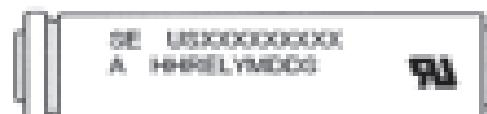

Fig.1
6.2 Trade Mark (Fig.1 : USXXXXXX) 登録商標名 (Fig.1 : USXXXXXX)
6.3 Plant (Fig.1 : A for plant code) 製造所 (Fig.1 畠記図 : A)
6.4 Specification (Fig.1 : HH for Cell Type) 仕様 (Fig.1 : HH)
6.5 Lot Number (Fig.1 : YMDD0 for Manufacturing Date of Cells)
ロット、セル製造年月日 (Fig.1 : YMDD0)
Lot Number (Fig.1 : YMDD0 for Manufacturing Date of Cells)
6.6 UL Marking UL マーク (Fig.1 : Recognition Mark)